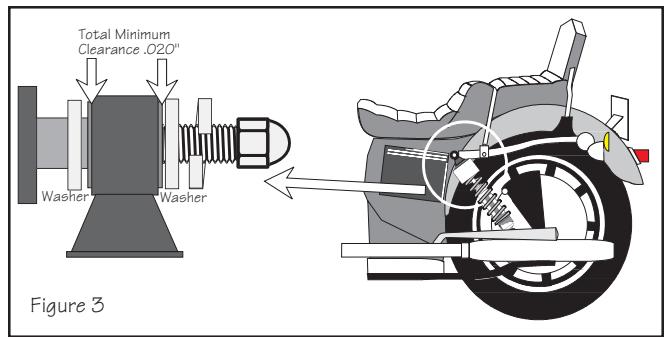

Figure 3
(1) If shocks come equipped with single spring only, mount spring on shock and go to Procedure E below.
(2) If shocks come with dual springs, install short spring, plastic separator, long spring and go to Procedure E.
E. Install top cap (with decal) and using a spring compressor tool, compress the spring(s) enough to install the retaining clip (F), release the spring slowly, making sure the spring retainer clip seats fully in the top cap and the shock spring.
7. Reinstall any accessories removed according to their mounting instructions. Make sure accessories do not interfere with shocks throughout full travel. If any accessories bolt to the shock mounting points, a careful check must be made to insure that they do not bind the shocks in any way (See Figure 3).